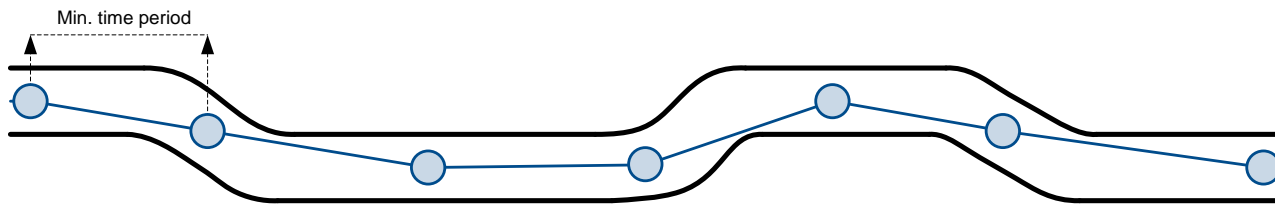

Figure 57 Time based tracking
**Time based data acquiring** (Figure 57) – records are being acquired every time when defined interval of time passes. Entering zero means that data will not be recorded according to time. This method is suitable best for basic position update.